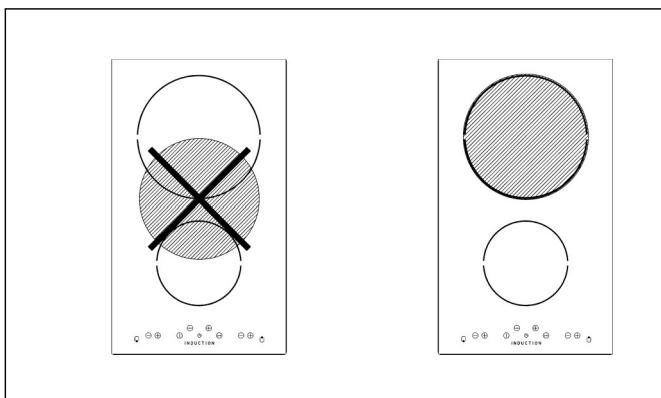

FIG. 2
- The pans must be properly centred on the heating elements (see fig. 2). If the pan is not properly centred over the corresponding printed area or is removed without switching the element off, a sensor automatically switches off the hob after a few seconds and the **U** symbol appears on the display indicating the absence of the pan. If the pan is not returned to or correctly positioned on the cooking area within 1 minute, the hob resets and if no control is pressed, it switches off after 20 seconds.
- use adequate pans for each burner (consult the following table and fig. 2).